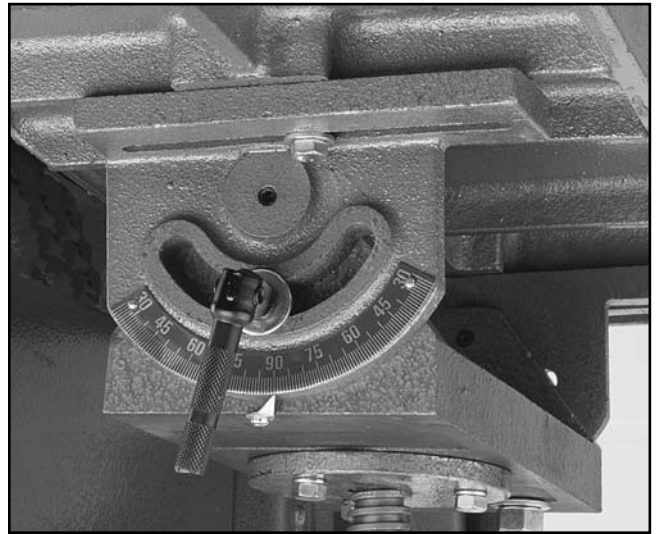

Figure 11. Setting the pointer to 90° .
11. Adjust the work table 90° to the sanding platen by checking it with a square. Adjust as necessary and tighten the table lock handles. At this point adjust the pointer to 90° . **Figure 11.**